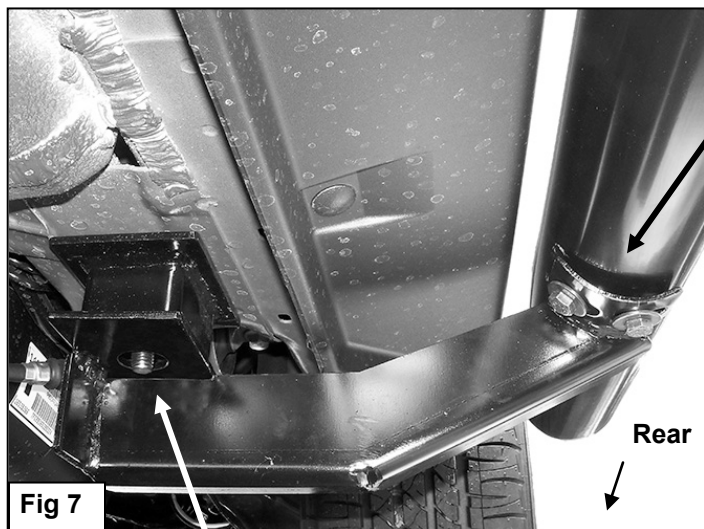

Fig 7
6. Attach the driver side rear Mounting Bracket to the Long Bolt Plate with (1) 12mm Lock Washer and (1) 12mm Hex Nut, **(Figure 7)**. **NOTE:** A deep socket is required to tighten the Hex Nut up into the Bracket. Snug but do not fully tighten hardware at this time.
8. Select the driver/left Sidebar. Carefully place the Sidebar onto the (2) Mounting Brackets. Attach the Sidebar to the Brackets with the included (4) 8mm x 25mm Hex Bolts, (4) 8mm Lock Washers, and (4) 8mm Flat Washers **(Figures 7—9)**. Leave loose at this time.